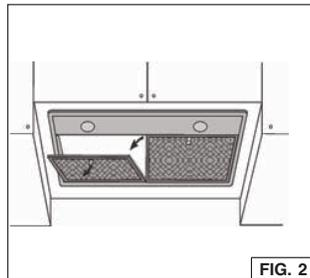

FIG. 2
1. Remove the grease filters, push in on the metal latch tab. Tilt the filters downward and remove (Fig. 2).
To remove the grease filters: push in on the metal latch tab. Tilt the filters downward and remove (Fig. 2).
1. To remove the grease filters: push in on the metal latch tab. Tilt the filters downward and remove (Fig. 2).